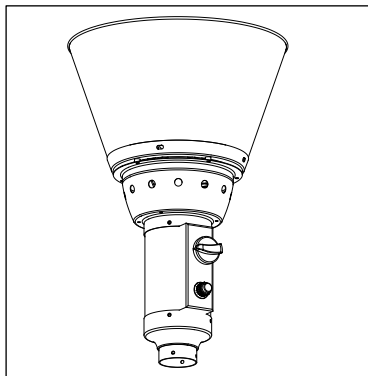

Figure 1
Wheel assembly completed as shown in figure 1.
2. Press and turn the control knob to HIGH (maximum) position (anti-clockwise 90°). (Figure 1)